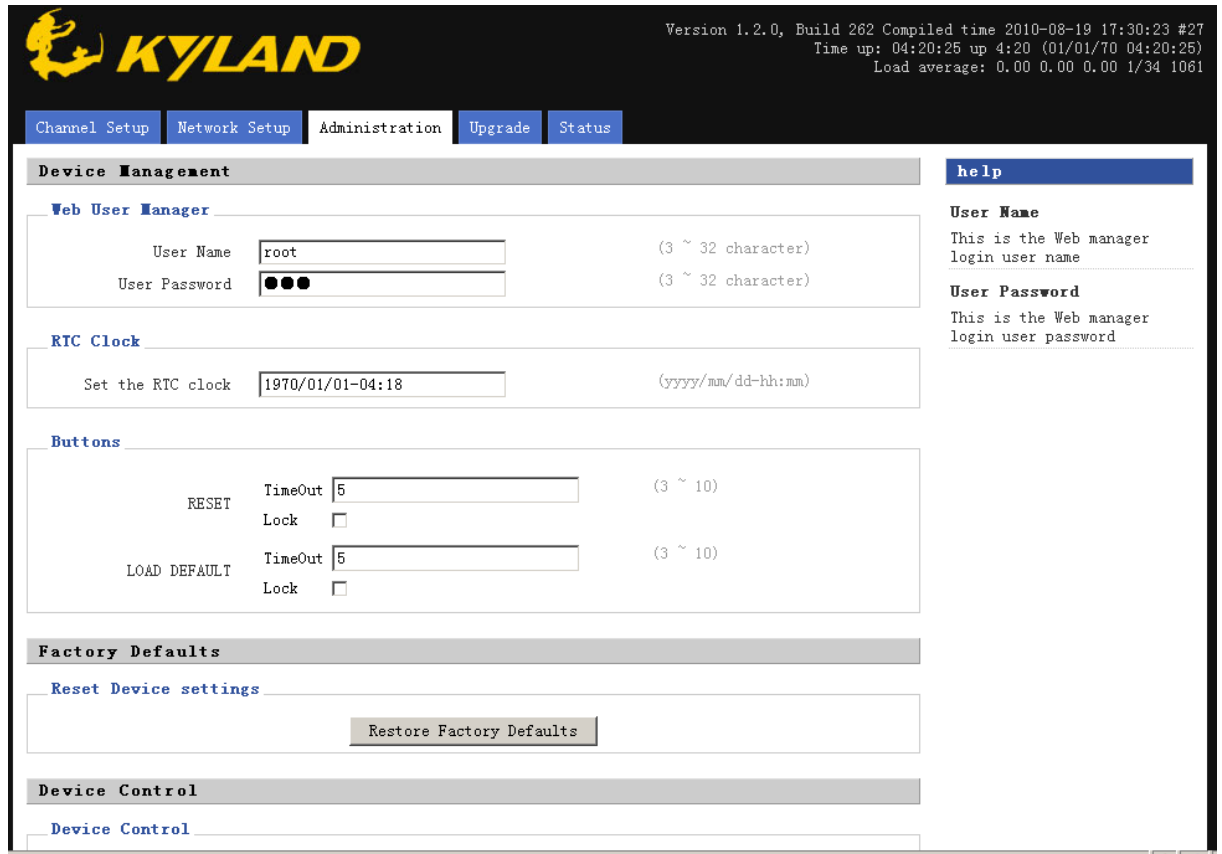

Figure 2-7 Management Configurations
- Enter WEB main page of serial server; click “Administration” in the main menu to enter the management configuration page as shown in Figure 2-7